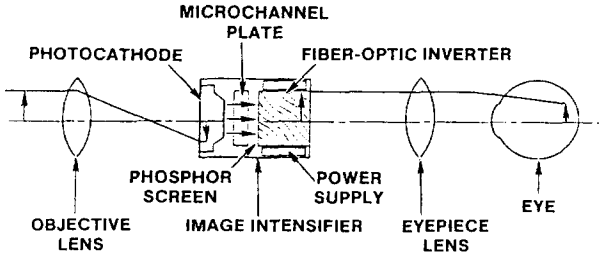

Figure 1-17. Optical Functional Diagram.
a. The binocular assembly is an electro-optical system consisting of two monocular with identical optical trains and functions (fig. 1-17). Each monocular has an objective lens, an image intensifier, and an eyepiece lens. The objective lens collects the ambient light reflected from the scene by the moon, stars, or night sky, inverts the image and then focuses the image on the image intensifier. Inside the image intensifier, a photocathode converts the light into electrons, a microchannel plate amplifies the electron image, and the electrons then strike a phosphor screen, The phosphor